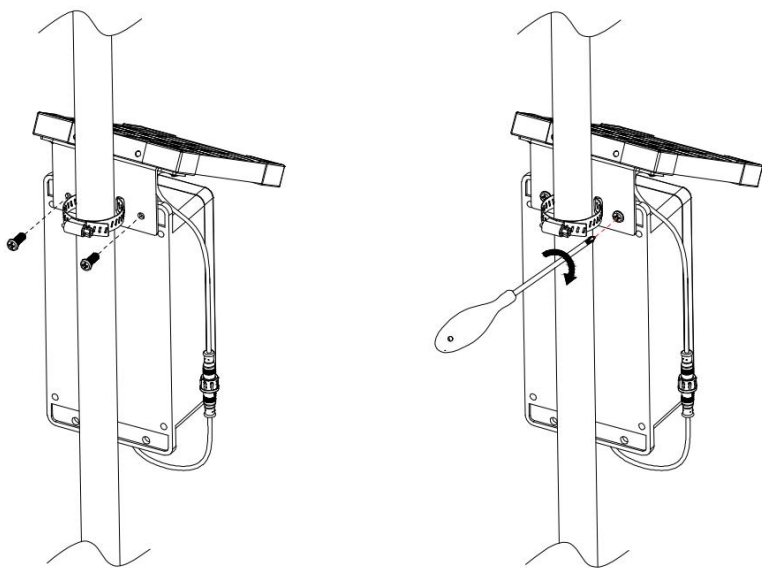

Figure 23
- ② There are 2 slots on the metal holder for steel loop. Attach the loop to the metal holder and make sure solar panel unit face sunlight as shown in Figure 23.